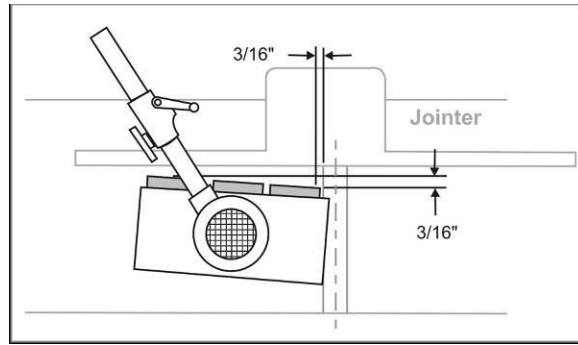

Figure 21
- Some woodworkers prefer to place the feeder so that all rollers are over the outfeed table, as shown in Figure 21. The infeed roller should be approximately 3/16" away from the lip of the outfeed table at the cutterhead area.